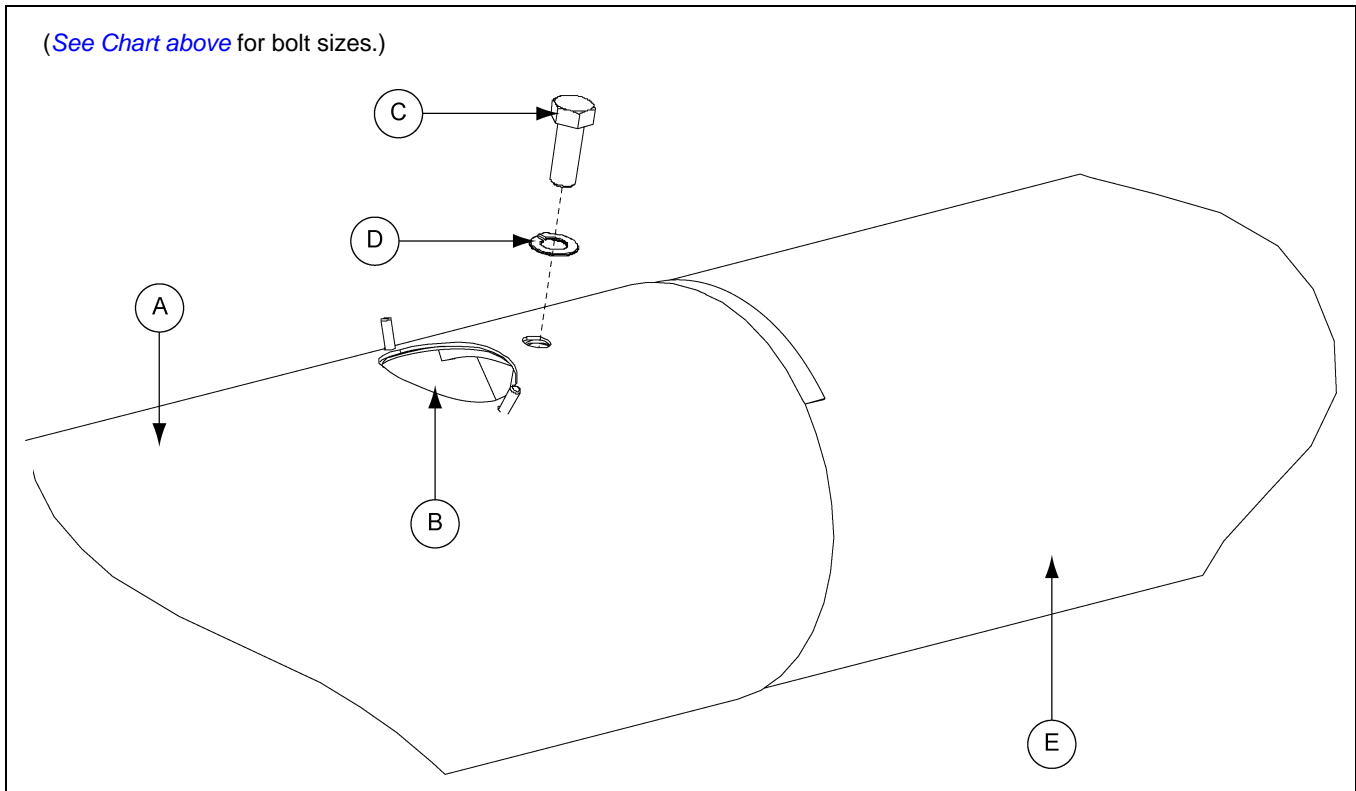

Figure 4T
4. With tube sections pressed flush against each other slide connecting band (A) over the tubes aligning the holes. Reach through the access hole (B) and align hanger bearing bolt (C) hole. Attach the hanger bearing to the tube using assigned hardware. (*See Chart below and Figure 4T.*)